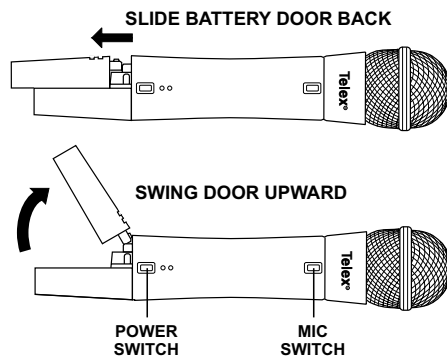

Figure 9
1. **Insert battery.** Slide open the hinged battery compartment cover by placing your thumb on the indents of the battery door (at the bottom of the transmitter) and gently pushing down (see Figure 9). Insert the battery, terminal end first, into the compartment, with the smaller positive terminal to the right.